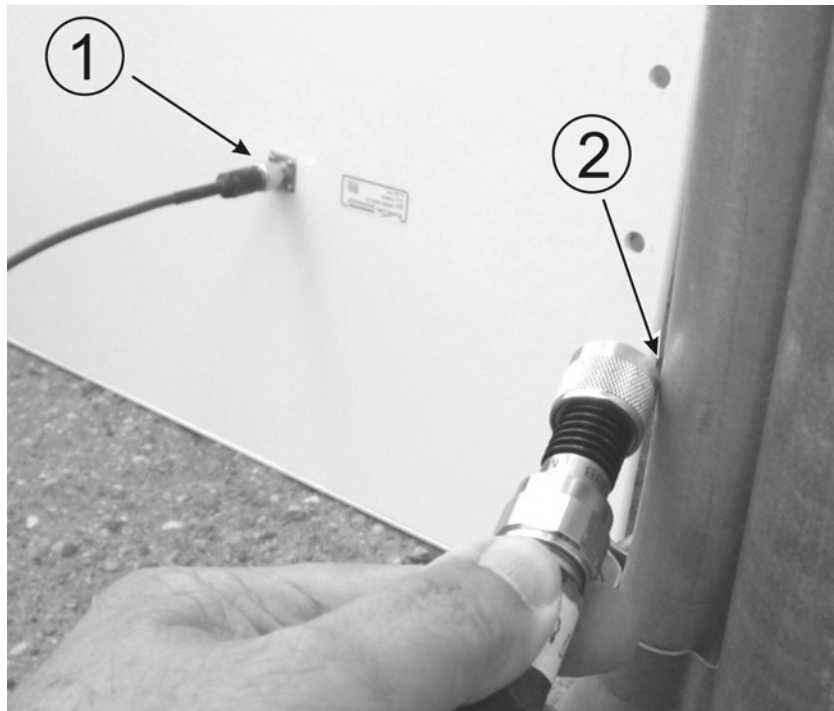

Figure 4–3 Short Load to Earth Ground
3. Short the outer metal case of the load or attenuator to Earth Ground for approximately 10 seconds (refer to Item 2 in Figure 4–3). In this example, the operator is using the mounting pole that has been properly connected to Earth Ground.